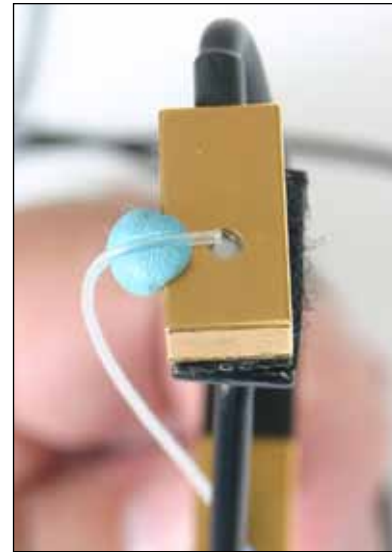

Figure C-3B—Attaching the integrated probe to the reference microphone
- 8b. If you are using a new style integrated probe microphone set, fasten the tip of a fresh probe tube to the reference microphone using a dab of putty, as shown in Figure C-3B.